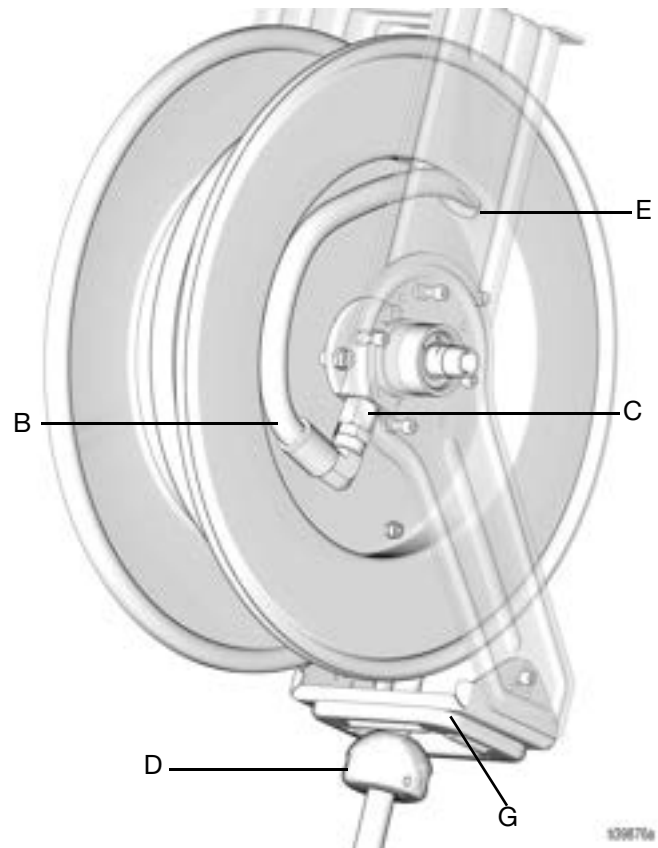

FIG. 16
6. Disconnect the hose (B) from the swivel (C) (FIG. 16).
9. Run the end of the hose (B) through the hose guide (G), and then through the hole (E) in the reel (FIG. 16).
10. Attach the hose end (B) to the hose reel swivel (C) (FIG. 16).